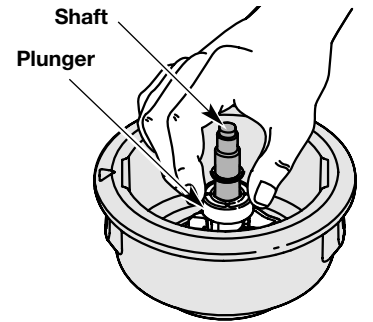

Fig. 25
- Clean the shaft and the inner surface of the outer spool. To clean the shaft underneath the plunger, press down on the plunger (Fig. 25). Remove any dirt or debris from the shaft.